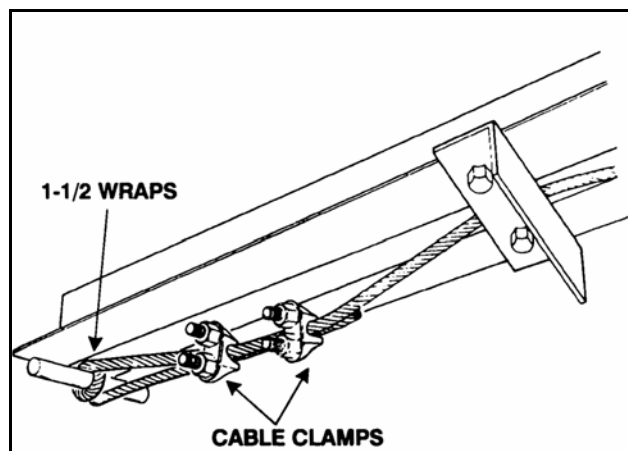

Figure 3.24
5. Wrap cable 1-1/2 times around cable attach rod and secure with two 1/4" cable clamps. Position cable clamps as shown in Figure 3.24.